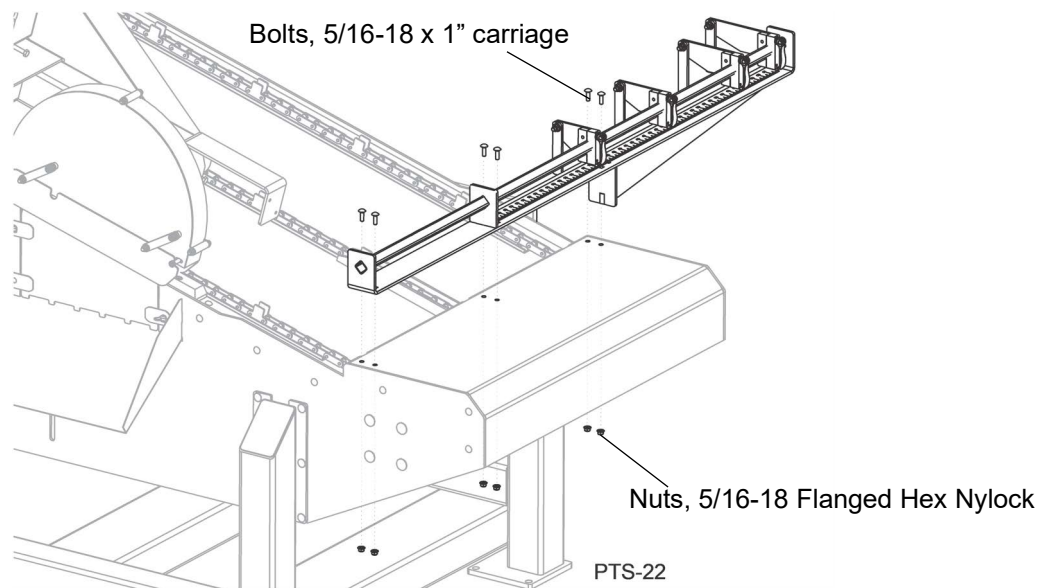

FIG. 3-2
2. Align the Board Stop Assembly as shown in Fig. 3-2.